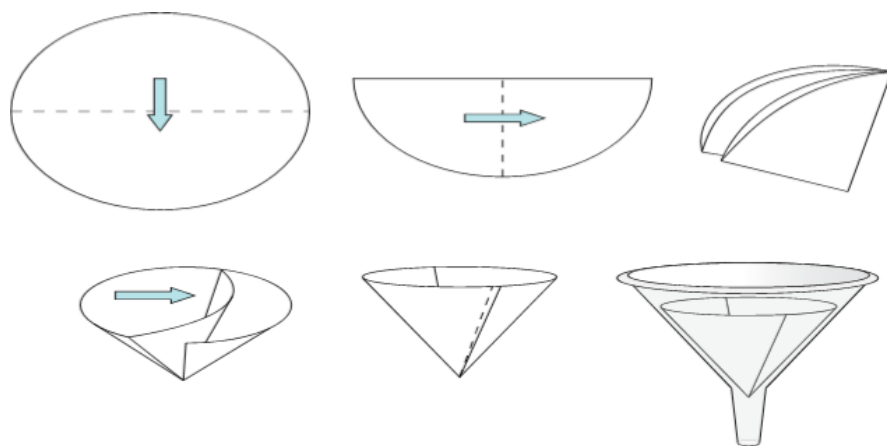

Figure 10. Step-by-step process of folding the filter paper so that it will fit into the funnel.
- ☐ 6. Prepare a filtering funnel as shown in Figure 10. Fold a piece of filter paper in half twice to make 4 quarters, and place the paper in the funnel so that three quarters are open on one side and one quarter is on the opposite side. Seat the filter paper into the funnel by moistening the paper with a small amount of water.